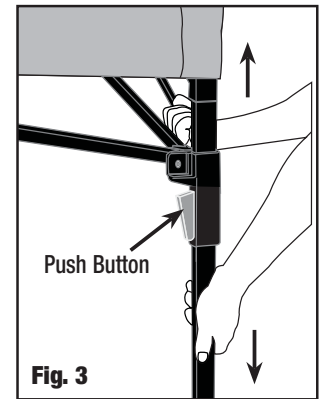

Fig. 3
- Pull up sliding bracket located on upper portion of leg until push button snaps into place. (Fig. 3)